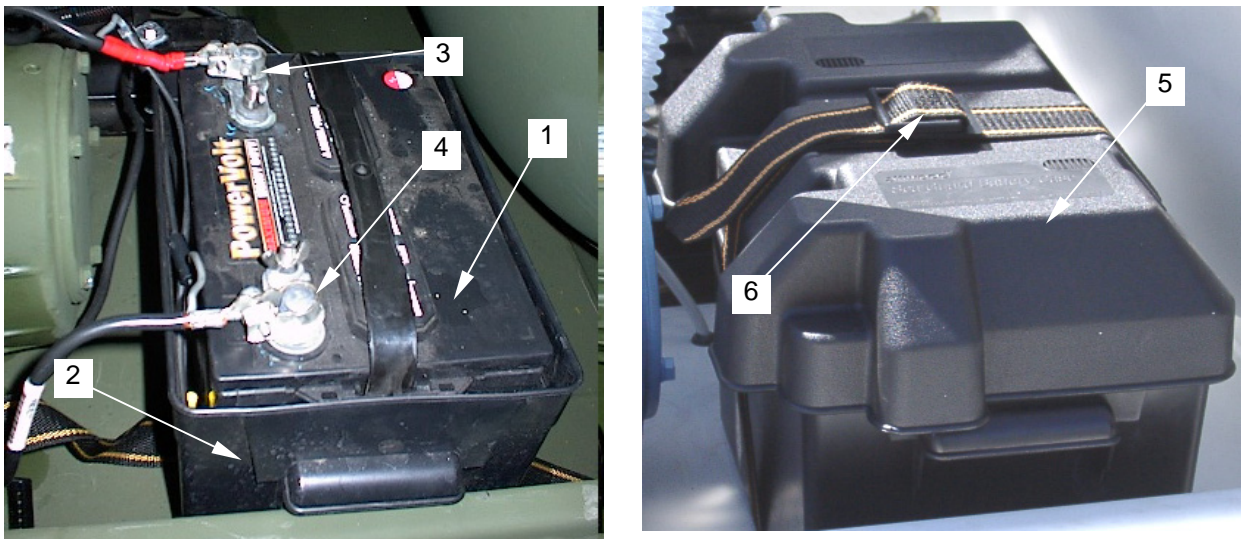

Figure 7. Battery and Battery Box
14. Place a new battery (figure 7, item 1) into the battery box (figure 7, item 2) and reconnect the cable clamps to the terminals (positive (figure 7, item 3) first, then negative (figure 7, item 4)). Tighten each clamp as it is installed.
15. Place lid (figure 7, item 5) onto battery box and secure buckle (figure 7, item 6).